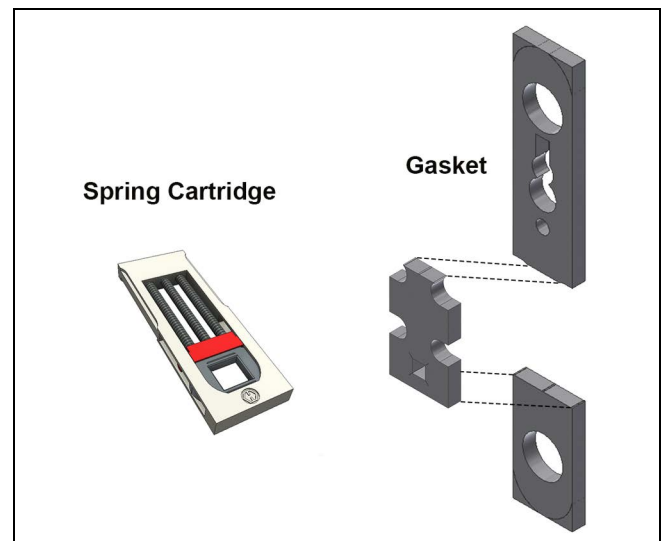

Figure 5
1. Install spring cartridge(s) as shown in Figure 5. Install spring cartridge on interior side when only one is provided. Insert gaskets on both backplates. On the side(s) using a spring cartridge, tear out the middle section of the gasket and insert the two halves above and below the spring cartridge.